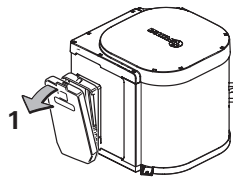

Fig. 3a
- Remove cowl cover (Fig. 3a).